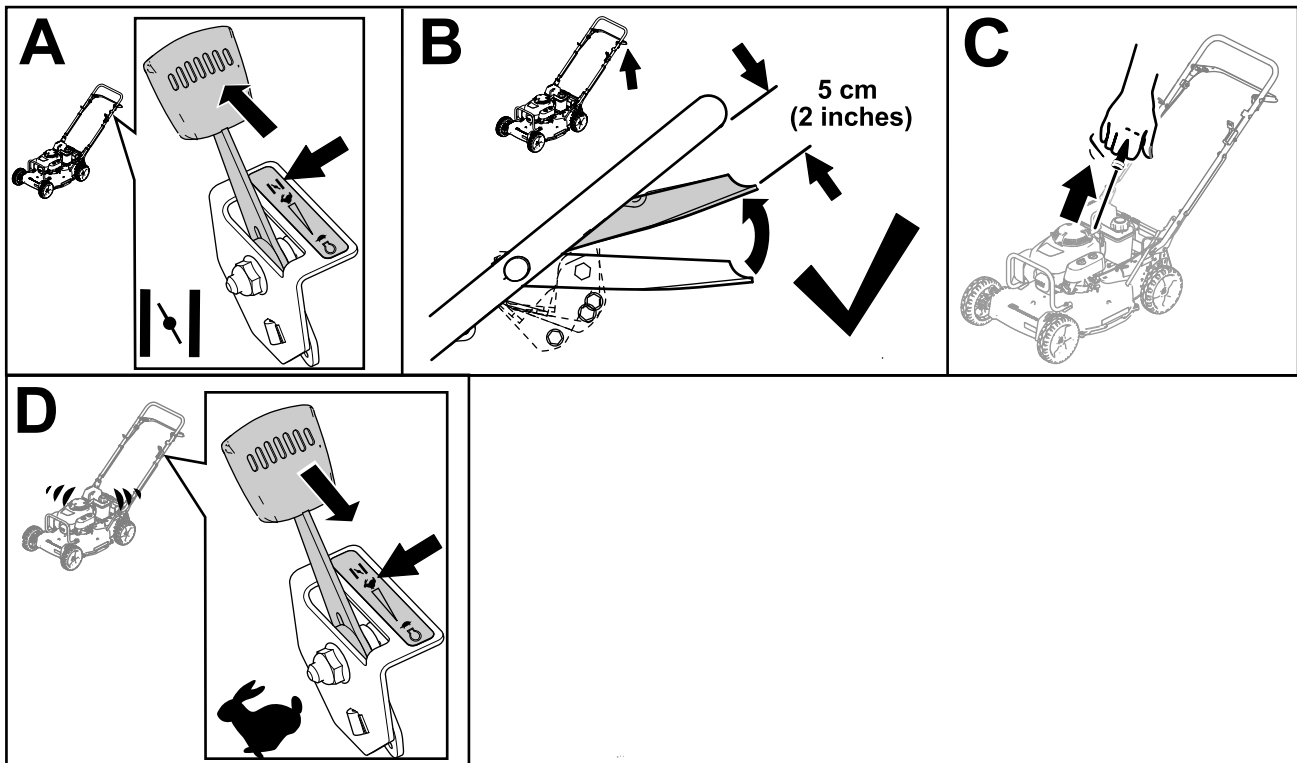

Figure 15
3. Move the throttle-control lever to the CHOKE position (A of Figure 15).
4. Hold the blade-control bar in the Run/Shift position, about 5 cm (2 inches) below the handle (B of Figure 15).
5. Pull the recoil-start handle lightly until you feel resistance, then pull it sharply (C of Figure 15).
6. When the engine starts, move the throttle-control lever to the FAST position (D of Figure 15).
Note: Close the fuel valve by moving the fuel-valve lever (Figure 15) to the **left** if you will not be starting the engine soon afterward.